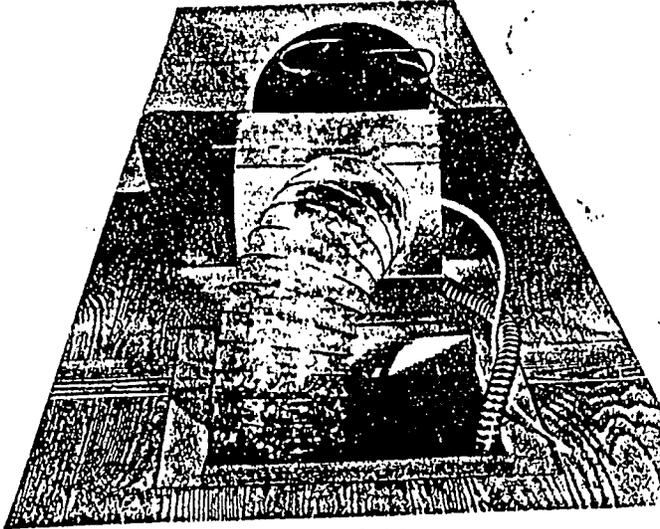

FIGURE 18
13. Slip flex duct over flex duct collar on blower assembly and secure with remaining plastic clamp. Excess of plastic clamp may be cut off. See figure 18.